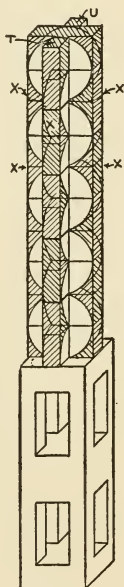
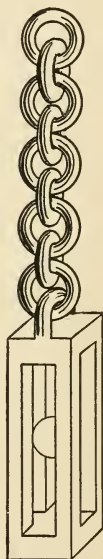

FIG. 395.
FIG. 396.
**The Chain** is to be cut out of the remaining core, one link out of every two divisions. Commencing at the top of the block, remove the shaded portions *T* and *U* (Fig. 395), as those would form only half links; then notch out the shaded corners marked *X* in the drawing, and gradually cut the core into circular links. Having finished this operation, draw a circle inside of each link, and cut out the wood inside of it. Round the edges of the links as shown in the drawing of the finished chain (Fig. 396).